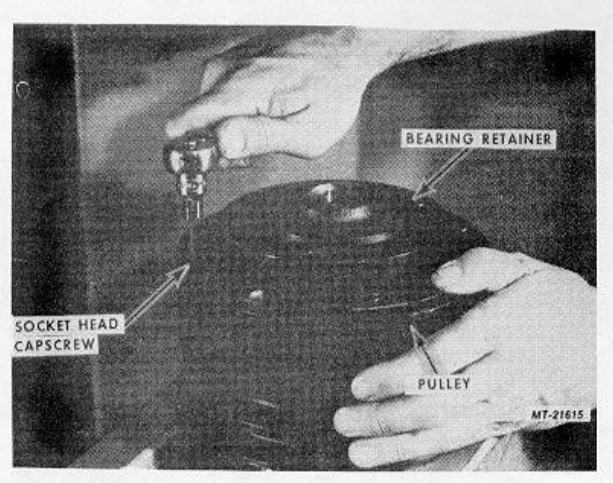

Fig. 85
48. Install eight Socket Head Capscrews and tighten with a 3/16" Allen wrench, Fig. 85. Torque to 27.116Nm (20 lb. -ft.).